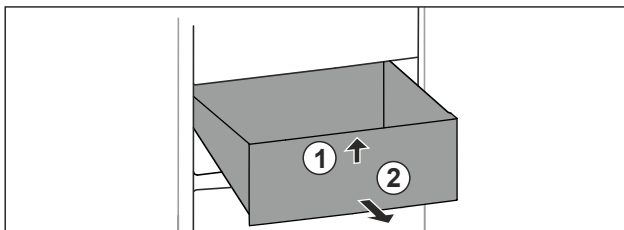

Fig. 30
- ▶ Lift up drawer at the front. Fig. 30 (1).
- ▶ Remove drawer to the front. Fig. 30 (2).